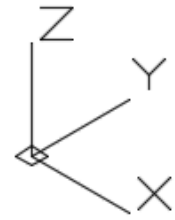

Figure Step 3
Step 3 Set the current view to SE Isometric. (Figure Step 3)